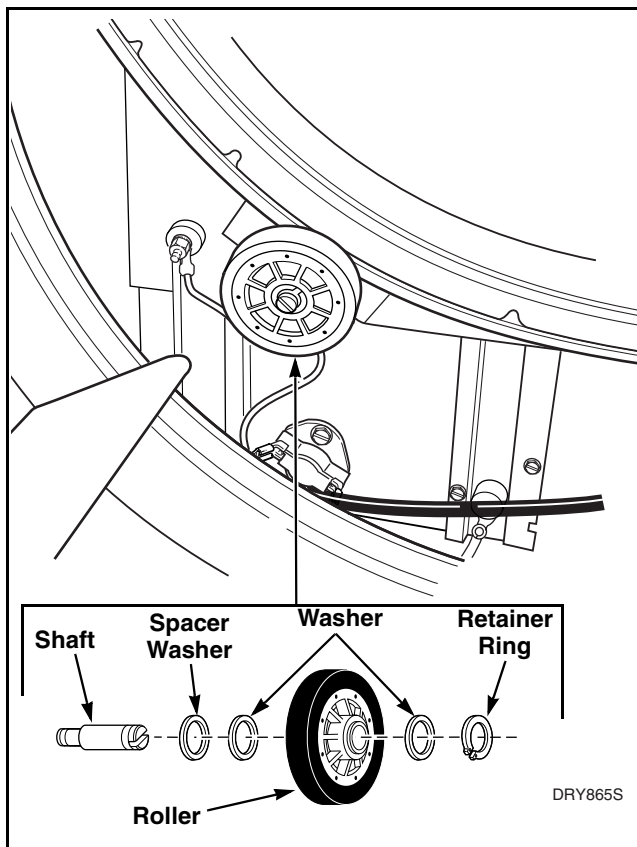

Figure 28
- c. Refer to *Figure 28* for removal of roller from roller shaft.